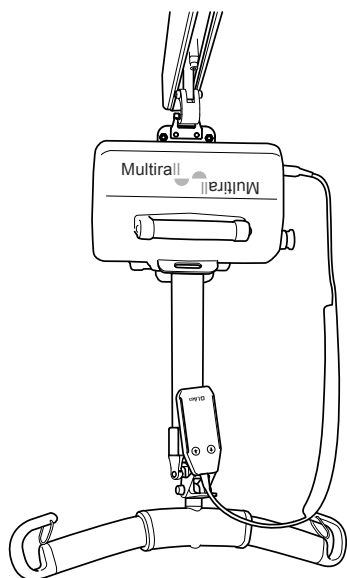

fig. 1
- mounted with the lift strap under the lift unit (fig. 1), or